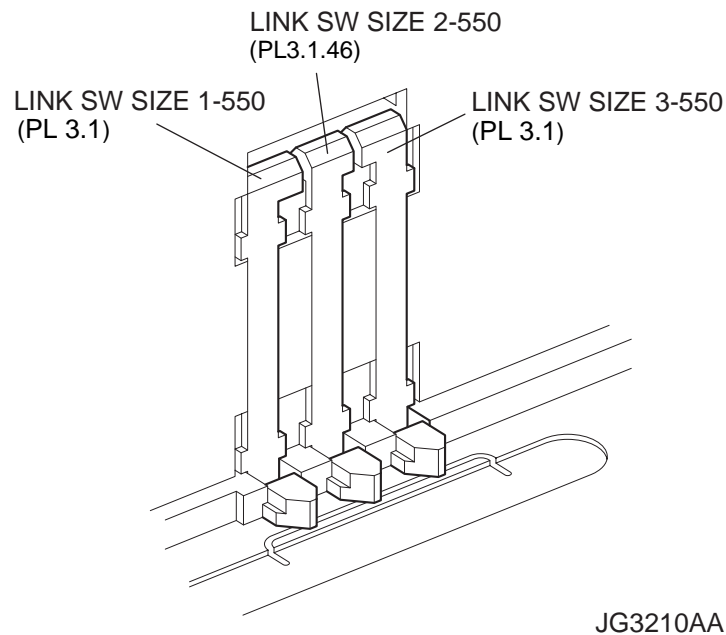

Figure 4. Link Size Switches
- 4) Install the HOUSING EXTENSION 550 and HOUSING TOP 550 (PL 12.3) to the HOUSING BASE 550 while pushing the LINK SW SIZE1-550 (PL 3.1), LINK SW SIZE2-550 (PL 3.1) and LINK SW SIZE3-550 (PL 3.1) of the HOUSING BASE 550 outward (Figure 4).
- 5) Install the HOUSING EXTENSION 550 and HOUSING TOP 550 (PL 12.3) on the HOUSING BASE 550 while pushing the LINK SW SIZE1-550 (PL 3.1), LINK SW SIZE2-550 (PL 3.1) and LINK SW SIZE3-550 (PL 3.1) of the HOUSING BASE 550 outward as shown in figure 4 of procedure (RRP3.2).